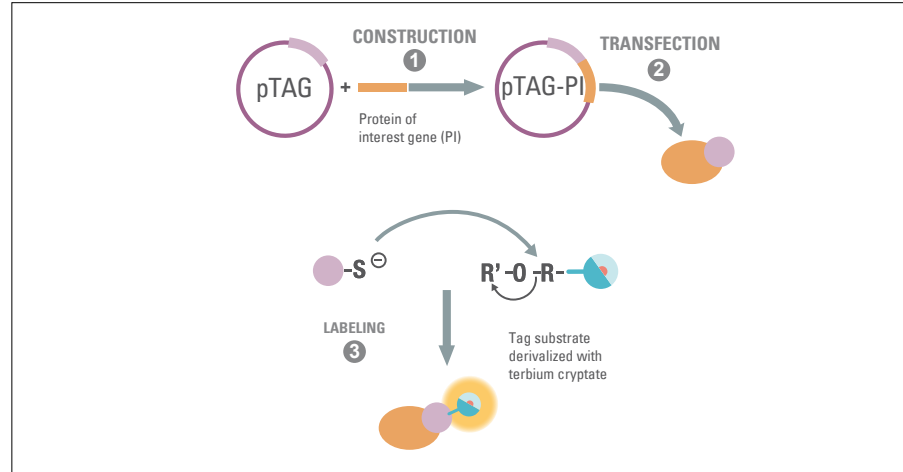

Figure 25 Generation of a Tag-lite fusion protein, from fusion protein plasmid construction to labeling with the HTRF dye.
1. Construction of plasmid encoding the cell surface protein of interest fused to a SNAP-tag, CLIP-tag or HaloTag (Figure 25). Revvity offers SNAP-tag, CLIP-tag, and HaloTag expression constructs for cloning your cell surface protein of interest. Additionally, Revvity has an extensive collection of pre-cloned expression constructs for tagged GPCRs and RTKs, or can develop custom ones on a fee-for-service basis.